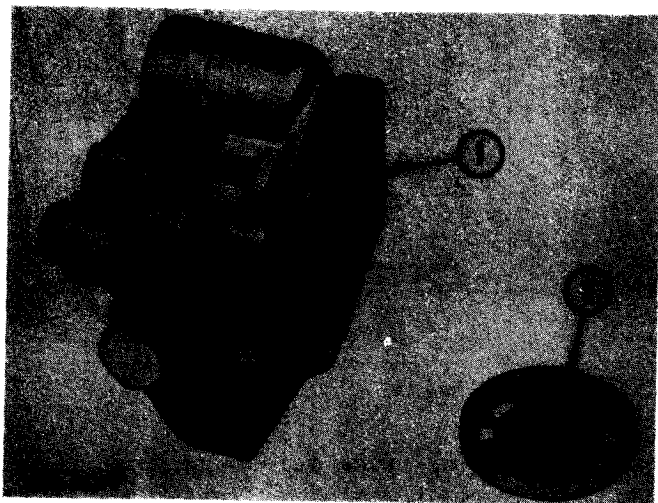

Figure 13-44
Slide diaphragm guide (2, Fig. 13-44) out of body (1).